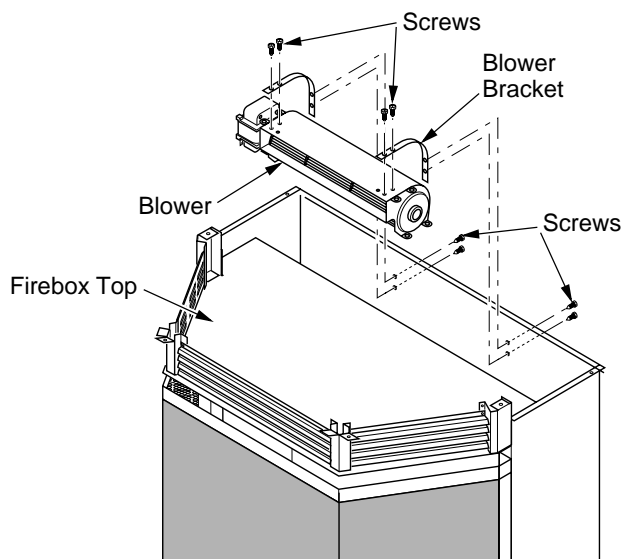

Figure 14 - Removing Blower Brackets from Stove and Attaching to Blower
7. Remove the two blower mounting brackets from the rear panel by removing two screws each (see Figure 14).
8. Attach the two mounting brackets to blower housing using four screws provided in blower kit (2 for each bracket) (see Figure 14). Tighten screws securely. Place blower assembly temporarily on top of firebox.
13. Using the four screws previously removed, mount blower assembly to stove by reattaching blower brackets to rear panel (see Figure 14, page 10). Tighten screws securely.
7. Remove the two blower mounting brackets from the rear panel by removing two screws each (see Figure 14, page 10).
8. Attach the two mounting brackets to blower housing using four screws provided in blower kit (2 for each bracket) (see Figure 14, page 10). Tighten screws securely. Place blower assembly temporarily on top of firebox.
21. Using the four screws previously removed, mount blower assembly to stove by reattaching blower brackets to rear panel (see Figure 14, page 10). Tighten screws securely.